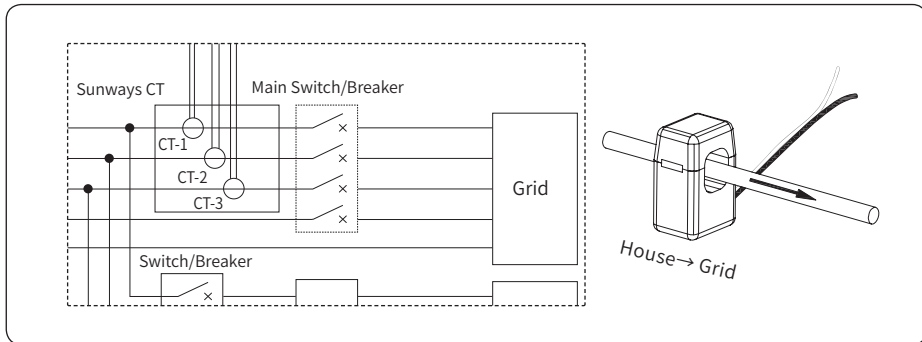

Figure 4-29 CT connection diagram
1) The current transducer, also called CT, is usually installed on the fire wires between the house loads and the power grid, as shown in Figure 4-29.